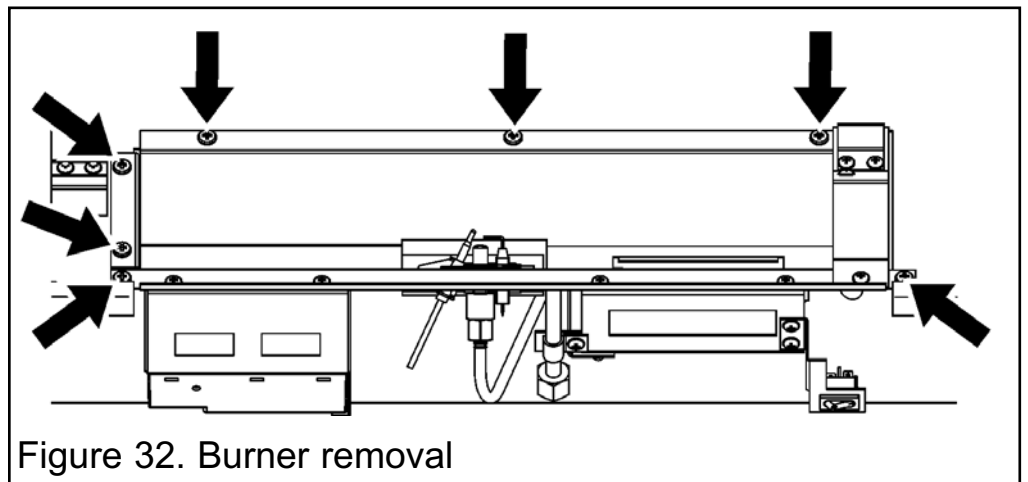

Figure 32. Burner removal
4. Unscrew and remove the seven screws from the top of the burner (See figure 32).